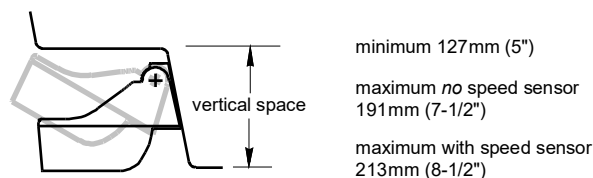

Figure 1. Stepped transom: vertical space required
- Allow vertical space above the bracket for it to release and rotate the sensor upward (Figure 1).
- **Stepped transom**—Mount the sensor on the lowest step being sure there is enough space above the bracket for it to release and rotate the sensor upward (Figure 1).
If there is insufficient space under the step for the sensor to fully release, remove the cover before proceeding (Figure 1, maximum space). This is necessary to access the bracket screws at a later time.